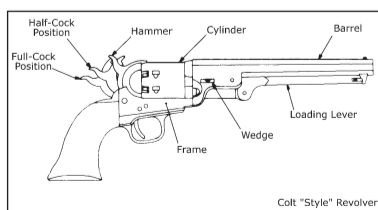

fig. 1
- 2 - Disassembly of the Colt-style revolver (see fig. 1):